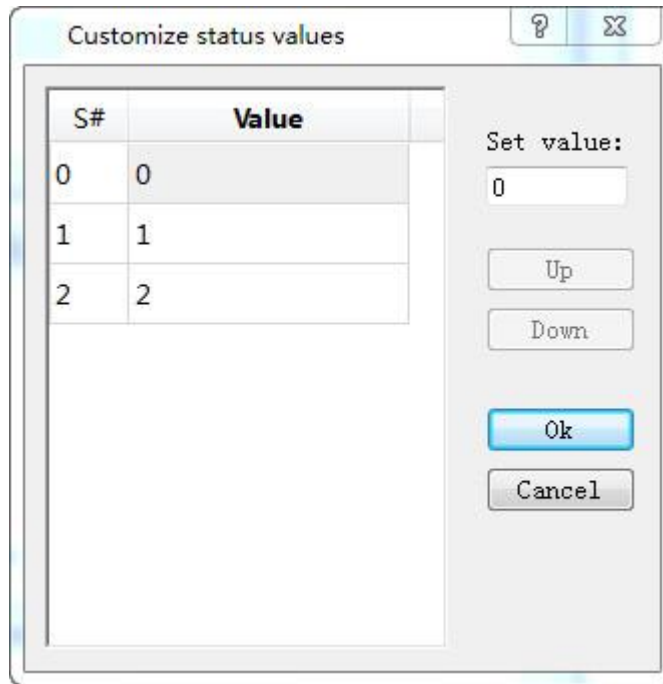

Figure 4-84 User-defined state value dialog box
- Customize status value: When user selects this option, a "Defined status value" button appears. Click it to bring up "Customize status value" dialog interface, as shown in Figure 4-84: